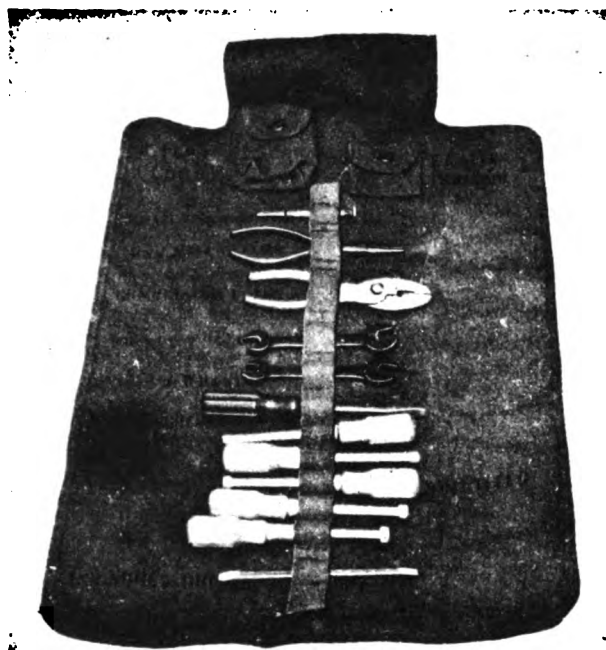

**Figure 8. Tower TR-29 set up with Antenna Assembly AS-109/TPX in place.**
b. **Tower TR-29** (Fig. 8). (1) The tower consists of a three-section 16-foot mast mounted on a triangular base and supported by three guy cables. The guy cables fasten to a floating-type bearing on the top mast section and are secured to the ground with screw-in type anchors. Three 15-inch angle-iron stakes are supplied for use where the ground is not suitable for using the screw-in type anchors. The base is staked to the ground and has a hinge pin and wingnut for fastening the mast in place.
(2) Rotation of the tower is controlled by
(3) A coaxial cable, Cord CG-282/TPX, connects the antenna assembly (fig. 8) to the rotary coaxial joint in the bottom mast section. This cable is inserted through a hole in the top mast section and travels down through the mast to the coaxial joint.